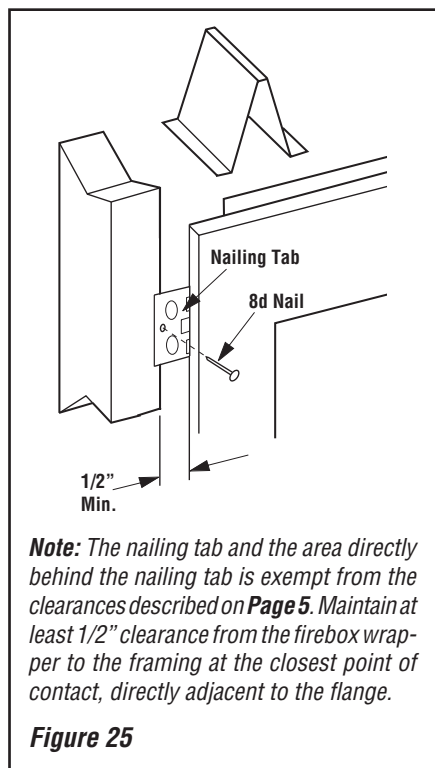

Figure 25
Step 4. The fireplace should be secured to the side framing members through the nailing tab at the top and bottom on each side of the fireplace front face. Use 8d nails (**Figure 25**).